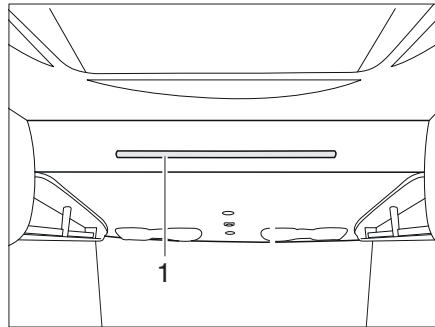

Fig. 152 Manual pull-down bed
- Pull the handle lever (Fig. 152,1) downwards in order to unlock the pull-down bed.
- Hook the access ladder to the pull-down bed by attaching both brackets into the bar (Fig. 152,1).